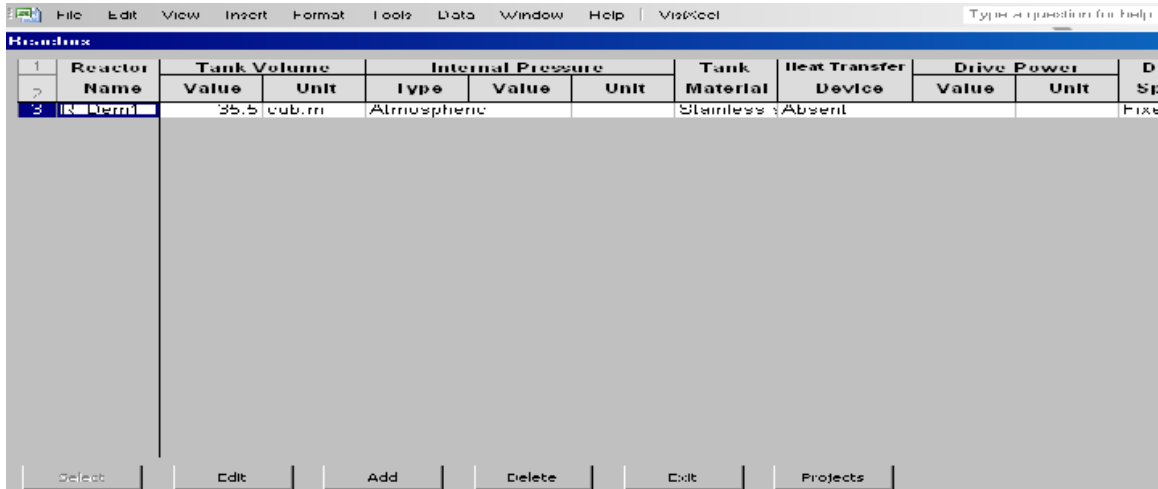
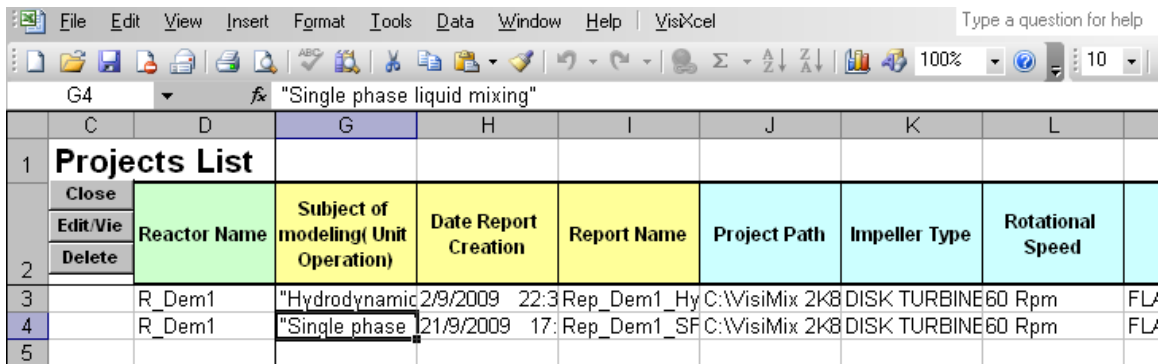
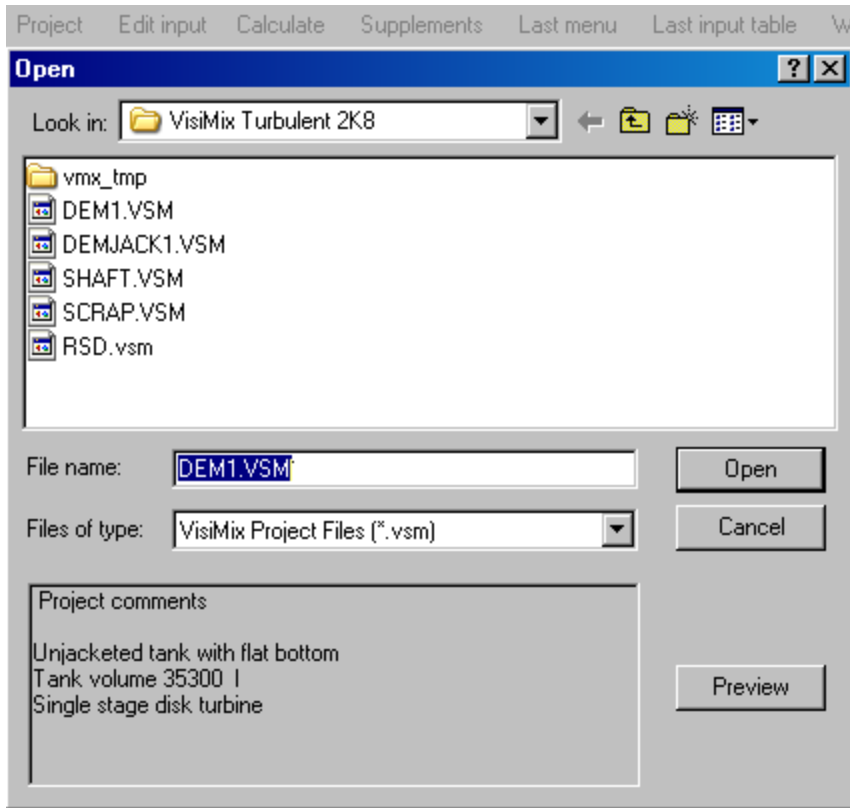

Figure 2.2
Figure 2.3
Figure 2.4.
2.2. Click on the selected reactor line in the arriving table (Figure 2.2) and press **Projects** button in the lower part of the window. With this action the program opens the **Projects List** and provides list of all projects and reports related to the selected reactor (Figure 2.3).
2.3. Mark selected project in this list (Figure 2.3) and click **Open VisiMix in VisiXcel** menu. The program will open VisiMix and a path to the selected project (Figure 2.4). In order to open the project, click **Open** button in this dialog box.
3.5. Click on the reactor name in the Database table (Figure 2.2) and press **Select** button. Check the project data in the arriving form (Figure 3.6) and confirm appropriation of the project to the reactor with **Save**.